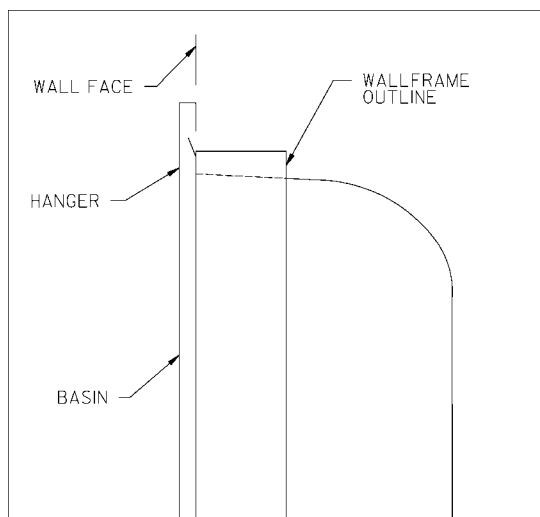

FIG. 6
3. Install the basin (See Fig. 6). Hold the basin flush against the wall, positioning the top edge just above the upper edge of the wallframe. Then slide the basin down slowly until it engages the hanger bracket. Be sure the basin is firmly engaged before releasing it.